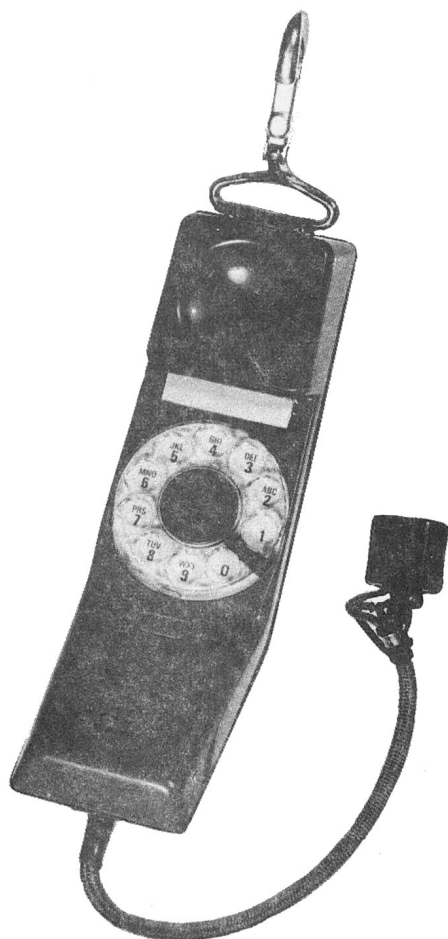

Fig. 2 — QSE4B2 Handset Using the NE-346A Plug
3.03 The QSE4 type handsets may be provided with either an NE-346A plug (see 2.06, Table A and Fig. 2) or two NSQ4100 L1 test clips (Table A and Fig. 8(a)). The test clips were primarily designed for outside plant use and will clip onto screw terminals, binding posts, wire spring relay terminals as well as connecting blocks, lead and drop wire as shown in Fig. 8(b) through 8(g).